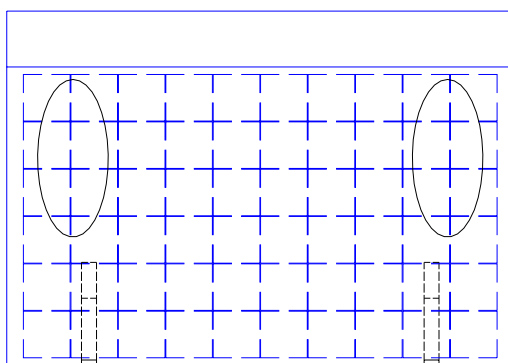

Figure 9 – recommended standing locations
9. Stand on the areas indicated by ellipses in figure 9